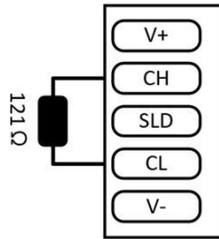

Fig. 5-5-2 Terminal Resistance Wiring
**power supply separately , and the two terminal modules in the network shall add with the terminal resistance, shown in Fig. 5-5-2 below.**